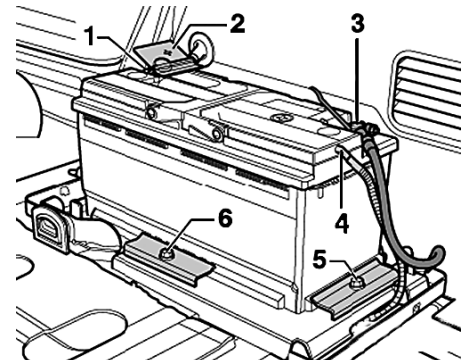

Fig. 2 Battery removal
6. Disconnect ground terminal (3) from battery post by loosening hex nut, **Fig. 2**.
7. Flip up positive cover (2), **Fig. 2**.
8. Disconnect positive terminal (1) from battery post by loosening hex nut, **Fig. 2**.
9. Remove central vent hose (4), **Fig. 2**.
10. Remove battery bracket mounting bolts (5, 6), **Fig. 2**.
4. Install central vent hose (4), **Fig. 2**.
5. Reinstall battery hold-down bracket, and **torque** bolts (5, 6) to 11 ft. lbs., **Fig. 2**.
6. Connect positive terminal (1) to battery post, and **torque** hex nut to 53 inch lbs., **Fig. 2**.
7. Connect ground terminal (3) to battery post, and **torque** hex nut to 53 inch lbs., **Fig. 2**.